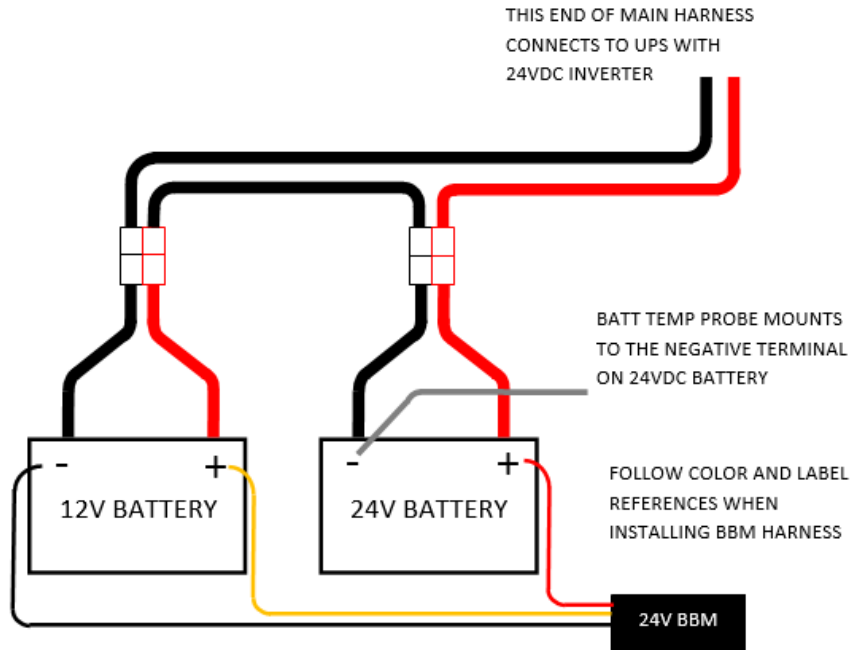

Figure 3 DOT and ITS Installation for 24VDC battery string
4. Connect the battery wiring harness per the wiring diagram in Figure 3. Inspect and clean the battery terminals as necessary to ensure a good connection. Battery terminal grease should be used to retard oxidation at the connection points. Dress the wires away from any sharp edges and allow sufficient slack for battery tray movement. Excess wire may be bundled and secured with cable ties or other restraining means.